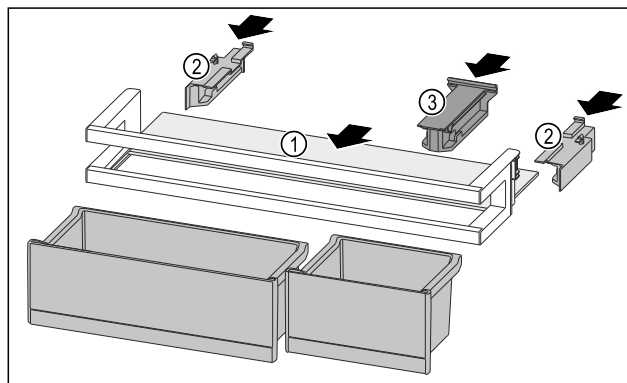

Fig. 251
- Push the shelf Fig. 251 (1) into the side recesses.
- Insert the side parts Fig. 251 (2).
- Insert the holding part Fig. 251 (3).